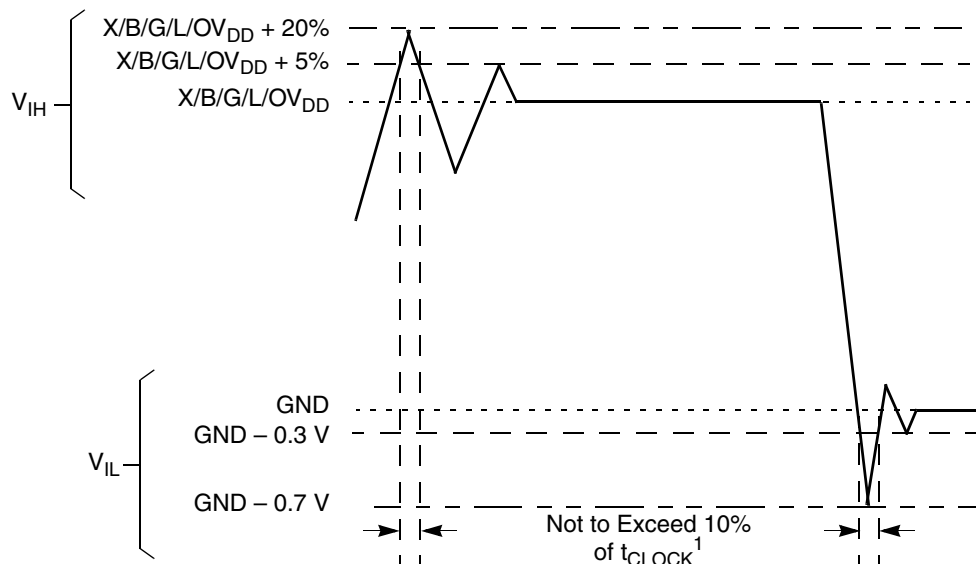

Figure 2. Overshoot/Undershoot voltage for $BV_{\text{IN}}/MV_{\text{IN}}/LV_{\text{IN}}/OV_{\text{IN}}/XV_{\text{IN}}$
- (X,B,G,L,O) V_{IN} and MV_{REF} may overshoot/undershoot to a voltage and for a maximum duration as shown in Figure 2.
3. (L,X,B,O,G)V_{IN} may overshoot (for V_{IH}) or undershoot (for V_{IL}) to the voltages and maximum duration shown in Figure 2.